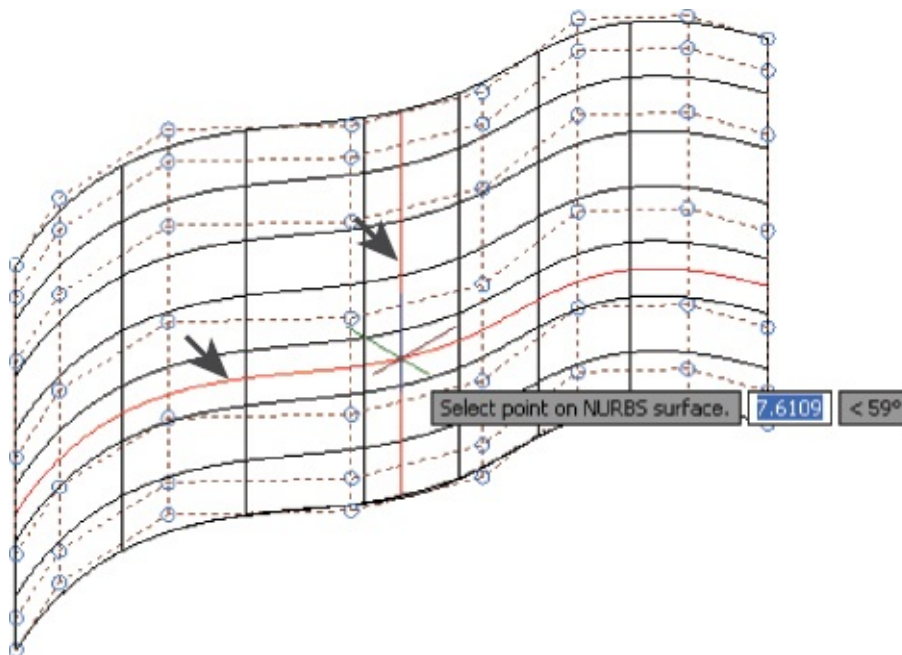
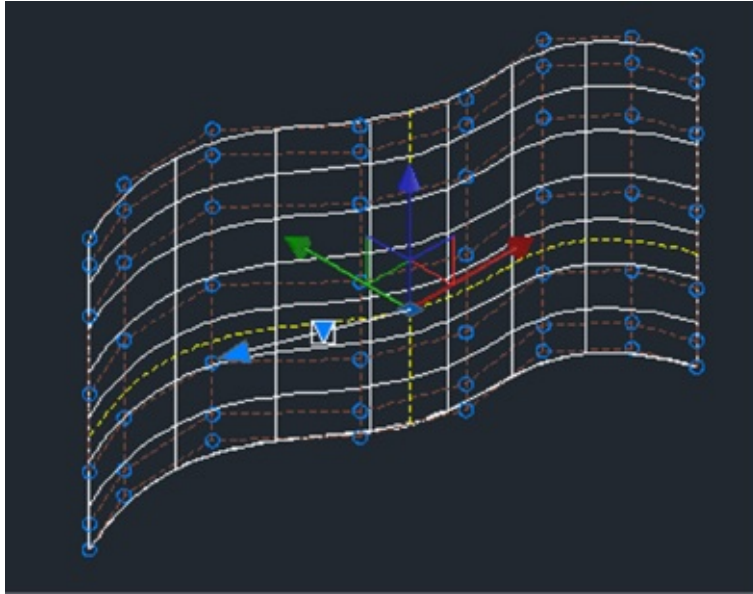

FIGURE 23.56 The CV Edit bar’s U and V directions are shown by two red lines.
FIGURE 23.57 The magnitude handle and expansion grips
2. Select the surface. Now as you move the cursor across the surface, you see two red lines that follow the U and V directions of the surface (see Figure 23.56).
3. Click the point shown in Figure 23.56. A Move gizmo appears along with two other features called the magnitude handle and the expansion grip (see Figure 23.57).